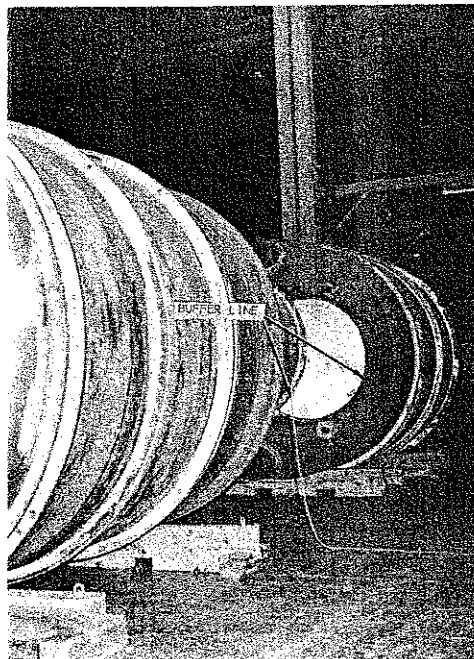

FIG. 6 BUFFER SETUP
- e. Install metal cover with masking tape over each flanged converter nozzle after converter is removed. Secure each cover in place with "C" clamps. (Fig. 6)
NOTE: If converter is stored on K-33 cell floor, before transferring to retubing area use special wooden cell floor saddles. If converter components are reusable, treat with a buffer. (Fig. 6)